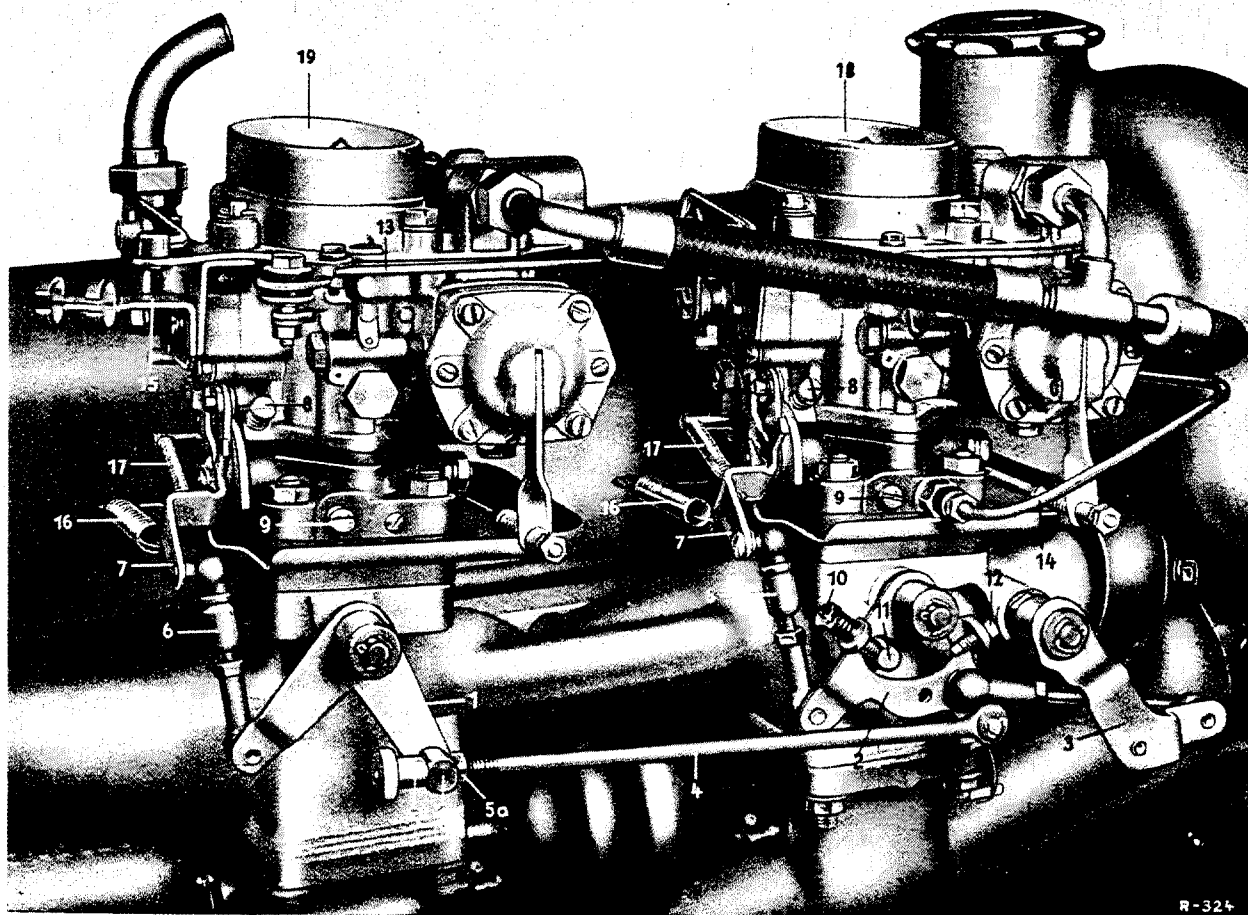

Fig. M 31 S/5
1. Detach the connectors (6) at both carburetors and slacken and back out the nuts (5) and (5a) of the pull rod (4) at the rear angle relay lever (1) until the pivoting drive lug (1a) is completely free (Fig. M 31 S/5).
2. Check the throttle valves of the carburetors for freedom of movement and if in doubt about this, detach the return springs (16) and (17).
3. Back out the idle adjustment screws (8) on both carburetors to the point where the throttle valves are completely closed. Then bring the idle adjustment screw (8) up to the point where it lies against the idle stop and screw it in exactly one turn.
4. In order to adjust the front carburetor, screw the idle stop screw (10) up to the point where it lies against the stop pin (11) and screw it in approximately two turns.
5. Check and if necessary adjust to the same length the two spring-loaded connectors (6) at the front carburetor and lock them by tightening up the hexagon nut at the ball cup.
- Note:** When adjusting the length of the spring-loaded connectors, both the front angle relay lever (adjustment lever) (2) and the throttle valve lever (7) of the front carburetor must be against the stop in the idle position. Similarly, care should be taken to ensure that the connectors (6) are not extended, i. e., the spring pressure must not be overcome in order to obtain the required length.
6. When the connectors have been adjusted to the same length, press them into position on the two throttle valve levers (7). Now adjust the idle stop screw (10) accurately. To do this, back out the idle stop screw a little and screw it in again to the point where the throttle valve lever of the front carburetor is about to move. Then back out the idle stop screw  $\frac{1}{8}$  of a turn. This will ensure that even if the ball joints are slightly worn there will be no play in the mechanism.
7. To adjust the rear carburetor, turn the hexagon nut (5a) toward the angle relay lever (1) until the throttle valve lever (7) is about to move. Then back out the hexagon nut (5a)  $\frac{1}{8}$  of a turn and tighten up the milled nut (5).
- Note:** When adjusting the pull rod (4), do not tighten the hexagon nut (5a) too much toward the angle relay lever (1) since this would cause the throttle valve of the rear carburetor to be forced open. On the other hand, the hexagon nut (5a) must not be turned in too little since this would cause the rear connector (6) to be expanded when the milled nut (5) is tightened.
1. After adjusting the carburetor linkage, screw in the idle mixture adjustment screw (9) completely on both carburetors as far as it will go and then back it out exactly two turns (see Fig. M 31 S/5).
2. Warm up the engine to its normal working temperature (70—80° C. cooling water temperature) and then, by evenly adjusting the idle adjustment screws (8), adjust the idle to a speed of approx.  $n = 800$  r.p.m., using Revolution Counter 000 589 12 21.
3. Adjust the two idle mixture adjustment screws (9) by screwing **evenly** in and out so that
4. Once more adjust the idle speed to approx.  $n = 800$  r.p.m. by means of the idle adjustment screws (8).